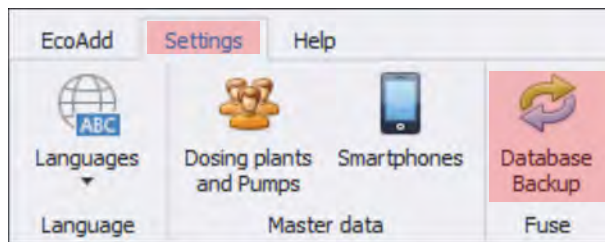

Fig. 52: Selection: Database backup
⇒ The [Settings] Fig. 52 menu opens.
1. ➤ Select the *[Settings]* Fig. 52 menu.
1. Select the [Settings] Fig. 52 menu.
1. ▶ Select the *[Settings]* Fig. 52 menu.